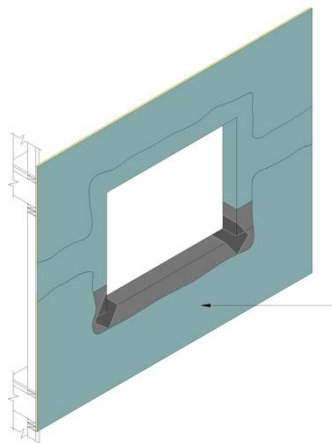

Figure 12
- 4) Install the specified component (i.e. window, etc.) and associated flashings per manufacturer's directions and contract documents. Then apply Backstop NTX – Texture or Smooth to the remainder of the wall surface as described in Section 7 and lap over the previously installed material around openings – Figure 12..